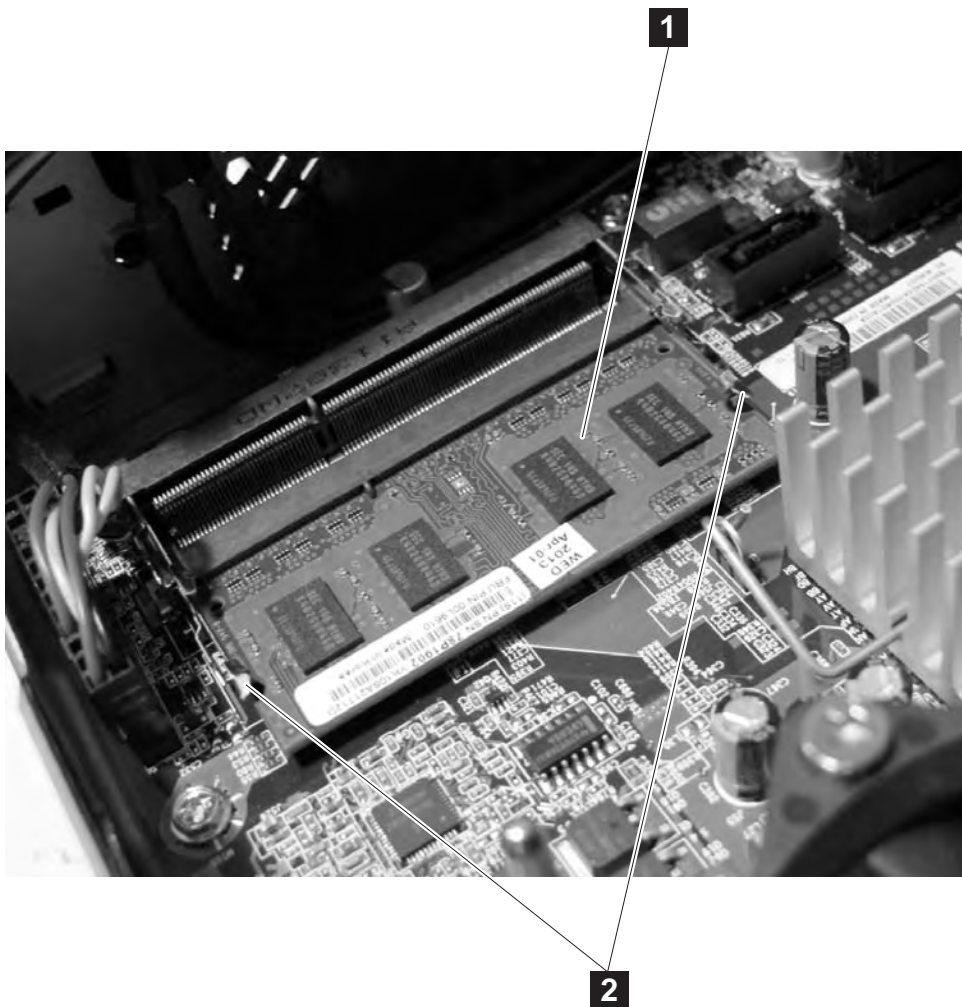

Figure 17. Removing the SoDIMM memory
6. Insert the SoDIMM ( **1** in Figure 17 on page 25) into the connector by aligning the edges of the SoDIMM with the slots at the ends of the SoDIMM connector **2** . Rotate the top edge of the SoDIMM down toward the system board. The retaining clips snap into the locked position when the SoDIMM is firmly seated in the connector. If there is a gap between the SoDIMM and the retaining clips, the SoDIMM has not been correctly inserted; open the retaining clips, remove the SoDIMM, and then reinsert it.
6. Insert the SoDIMM ( **1** in Figure 17 on page 25) into the connector by aligning the edges of the SoDIMM with the slots at the ends of the SoDIMM connector. Rotate the top edge of the SoDIMM down toward the system board. The retaining clips snap into the locked position when the SoDIMM is firmly seated in the connector. If there is a gap between the SoDIMM and the retaining clips, the SoDIMM has not been correctly inserted; open the retaining clips, remove the SoDIMM, and then reinsert it.